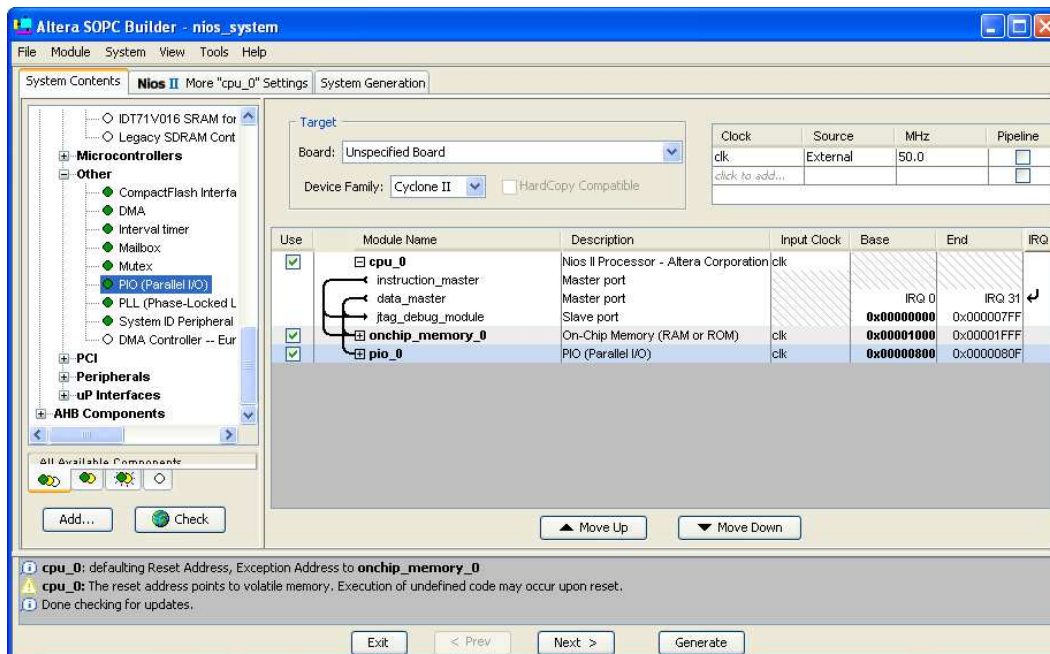

Figure 11. The parallel input interface is included.
- Click Finish to return to the System Contents tab as given in Figure 11